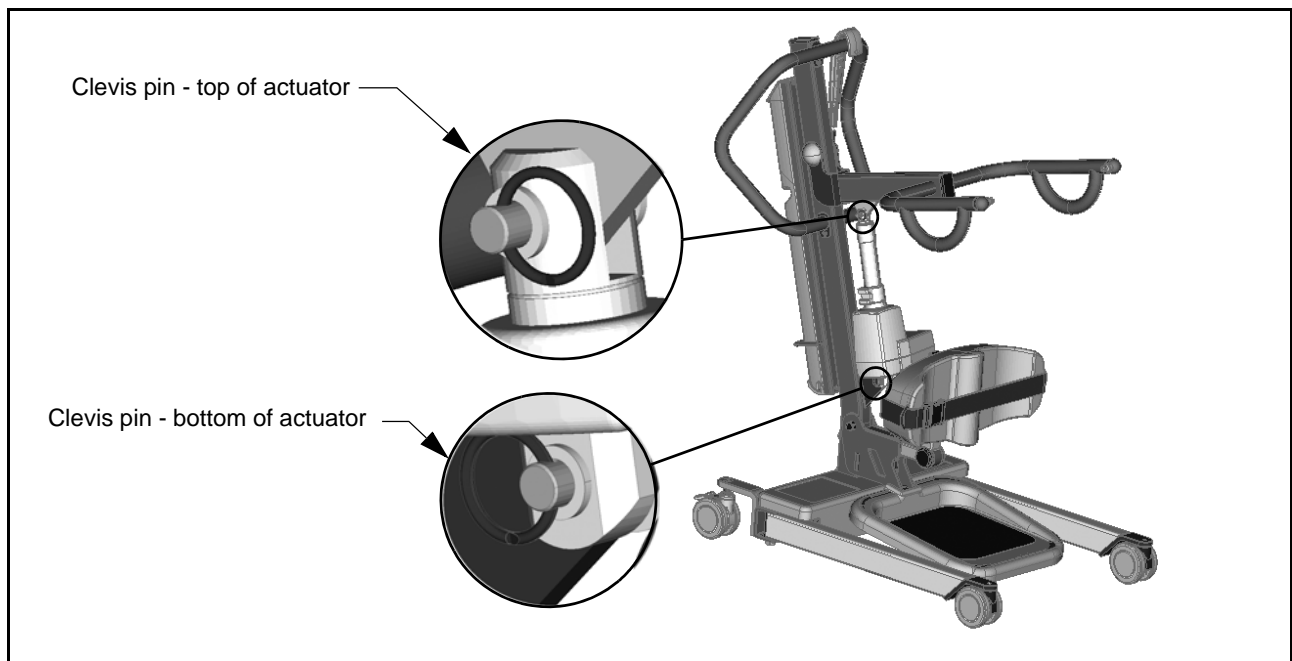

Fig. 31
- 3) Disassemble the actuator from the mast by removing the clevis pin split ring assembly and pushing out the pin (see Fig. 31), or with shoulder screw model, remove the shoulder screw, washer and nut.
- 4) Disengage the actuator from the boom by removing the clevis pin split ring assembly and pushing out the pin (see Fig. 31), or with shoulder screw model, remove the shoulder screw, washer and nut.
- 2) Disassemble the actuator from the boom by removing the clevis pin split ring assembly and pushing out the pin (see Fig. 31), or with shoulder screw model, remove the shoulder screw, washer and nut. Refer to service procedure 16.